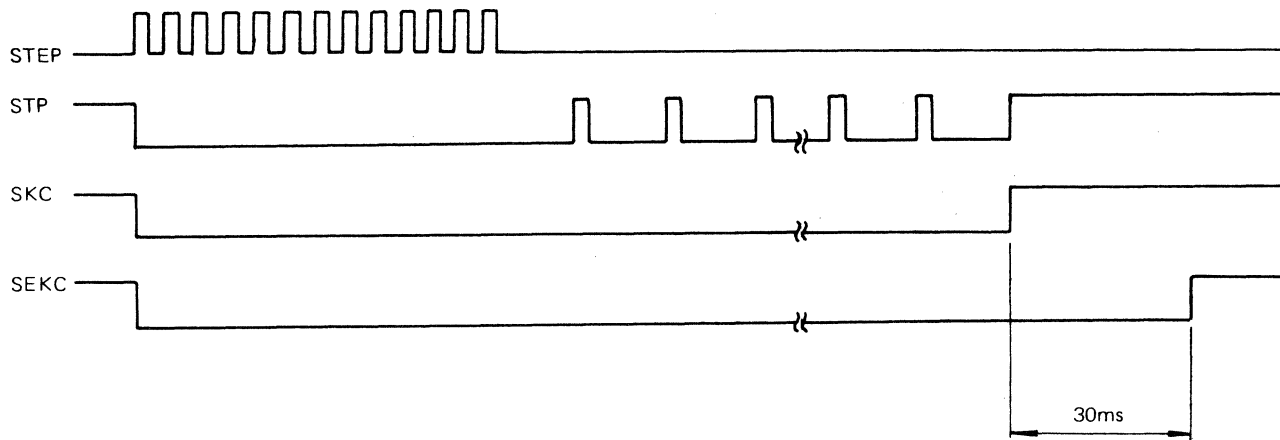

Fig. 4.20 SEEK COMPLETE Response Timing Chart
SKC responds instantly when the last step pulse to the stepper driving circuit is issued. SEKC responds after about 30ms time lag from when the settling timer is triggered by the leading edge of SKC. Refer to item 3.6.6 for the setting method of switches. Fig. 4.20 shows the timing chart of the SEEK COMPLETE response.